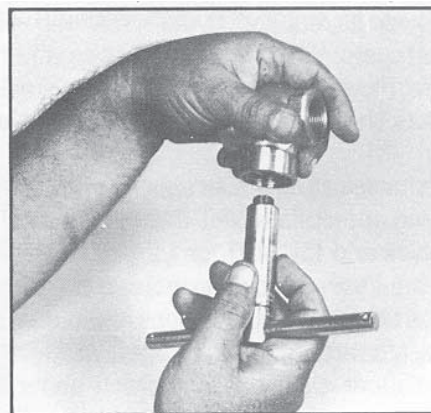

FIG. 4
3. With body inverted in palm of hand as shown in Figure 4, start seat threads into body, invert body and tighten seat. Do not over-torque. Standard torque figures using new parts at the factory are: 10/11 ft/pounds on "P" trim seats, 8.5 ft/pounds on other 1/4" seats, 35 ft/pounds on 1/2", 3/4" and 1" seats. It should be noted that torque figures are applicable to new parts and may not be the same for used parts. For longest service life, on new or used parts, it's best to use procedure detailed in paragraph 4.